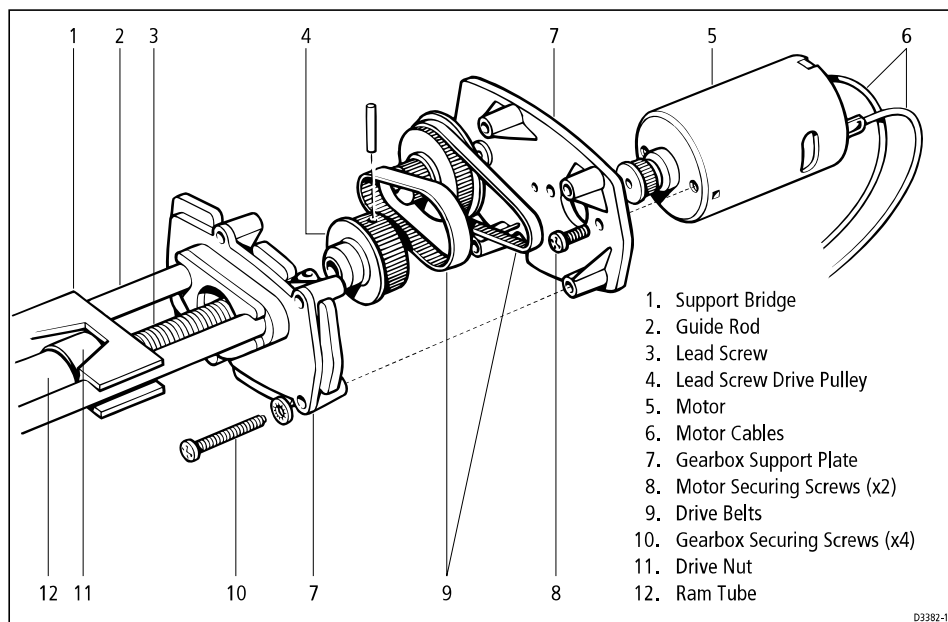

Figure 3. Gearbox Assembly
Refer to Figure 3.
1. Locate the main cable (6) and red and black motor leads in the channel (9) at the side of the lower case (8)
2. Enter the ram tube (14) into the case seal (2).
3. Lay the drive module into the lower case making sure the cables pass through the cutout (7) in the gearbox support plates as shown in Figure 3
4. Lay the case seal (2) in the outer groove around the perimeter of the lower case.